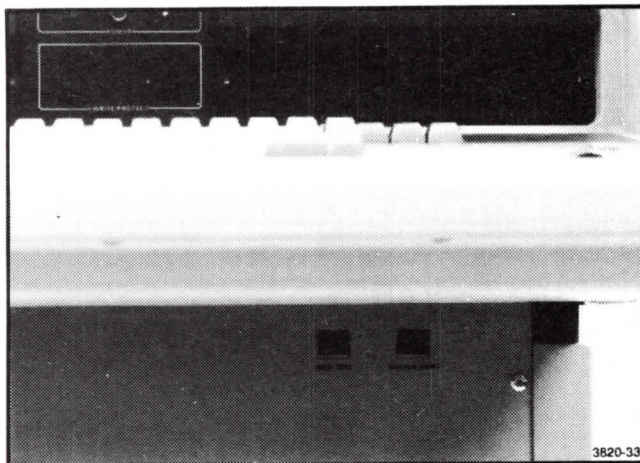

Figure 10-6. SELF TEST and MASTER RESET Buttons.
6. Use Self Test to display the main Self Test menu and then select "display" by pressing the F1 key. See Figure 10-6.